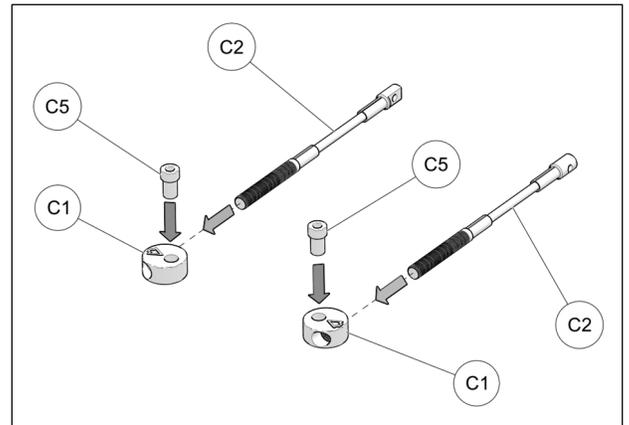

Fig. 20
- Assemble steering limiter cables (C2), aluminium disks (C1) and step spacers (C5) together as shown on Fig. 20